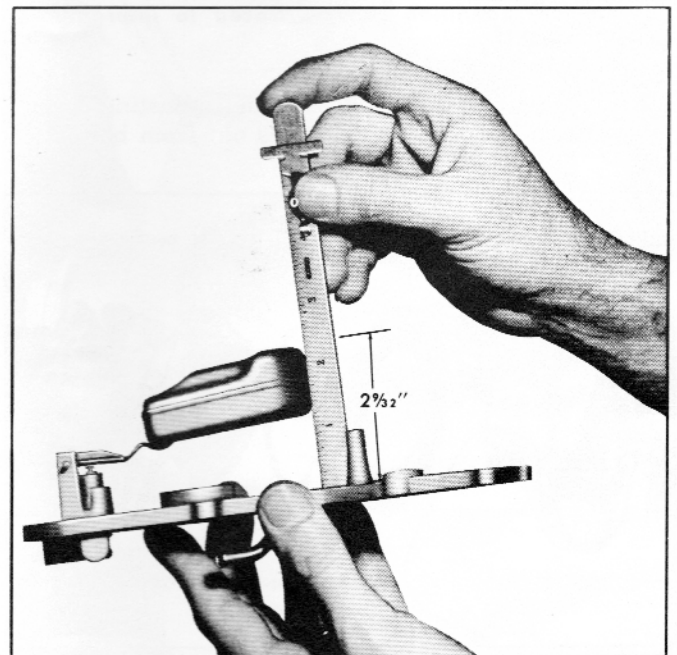
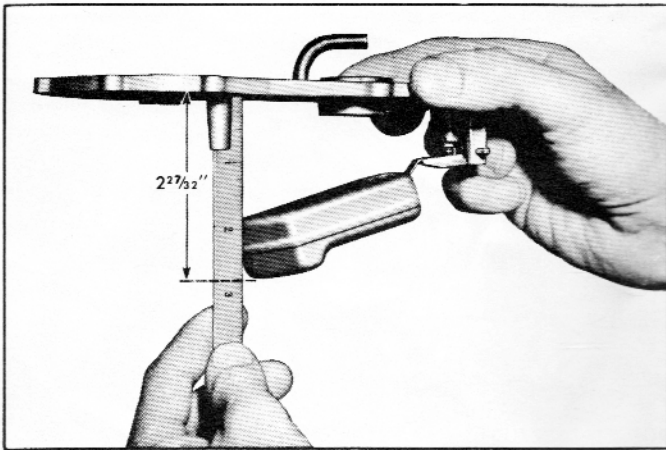

Fig. 77—Checking Float Level
Fig. 78—Checking Float Drop
6. Check fuel reservoir float settings before positioning cover to fuel meter body. Float level (fig. 77) should be $2\frac{27}{32}$ inches while float drop (fig. 78) should be $2\frac{27}{32}$ inches. Bend float arms or tang respectively to make these adjustments.